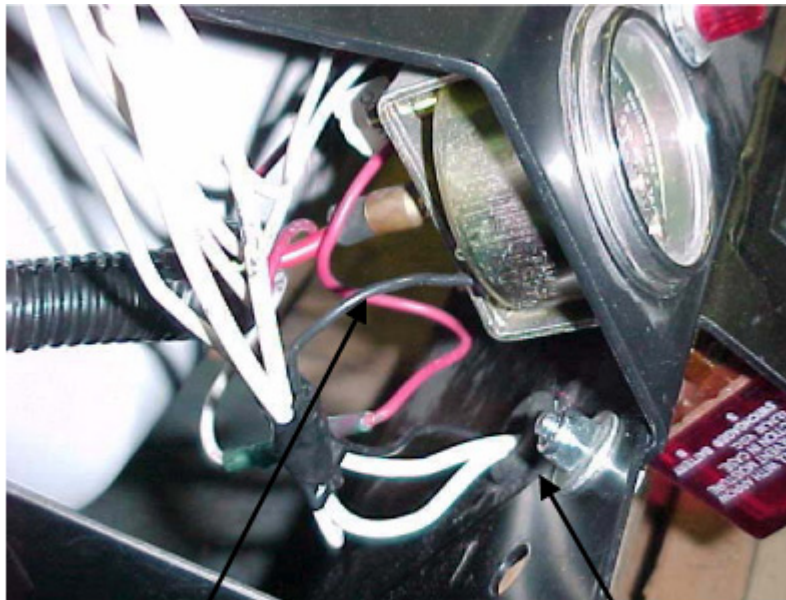

Figure 1
- 2 Place and mount the bracket that will hold the Murphy latching relay. The bracket can be placed as shown in the picture below. Use the $\frac{1}{4}$ " bolts, washers and nuts supplied in the kit to attach the bracket to the compressor control panel. A grommet is supplied to pass the wires through the panel to the Murphy relay. See figure 1.